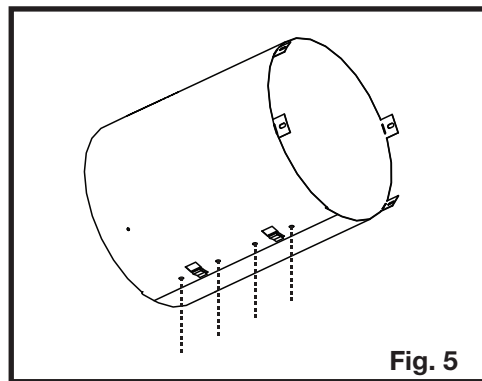

Fig. 5
5. Ensure both ends line up and secure ends with clip and fasteners (**Figure 5**).